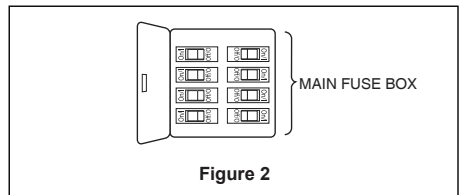

Figure 2
To avoid possible electrical shock, be sure electricity is turned off at the main fuse box before wiring. (Figure 2)
2. Securely attach and tighten the canopy screw cover over the shoulder screws in the hanger bracket utilizing the keyslot twist-lock feature. (Figure 2)
2. Secure the blade holders to the hub of motor assembly using the 1/4"-20 screws. (Figure 2)